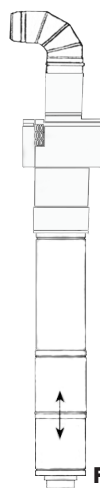

**FIG 12.4**
**NOTE** - If an **Adjustable Vertical Section** is fitted on the vertical section, please ensure that it is **fitted at the top**. This is to ensure that no excessive weight is being placed on the **Vertical Section** which could cause it to shorten (**See FIG 12.4 & 12.5**)